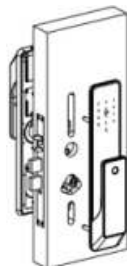

Fig. 11
- Align the handles from both sides and compress both the handle panels to door. Ref Fig. 11.